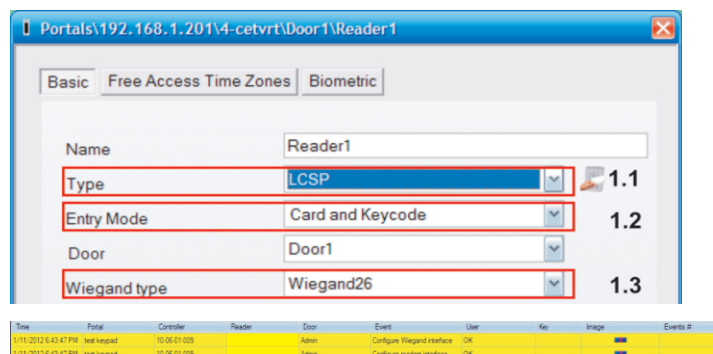

fig.2
4. Press Save & Exit. In the event window a confirmation message will appear as shown in fig.2